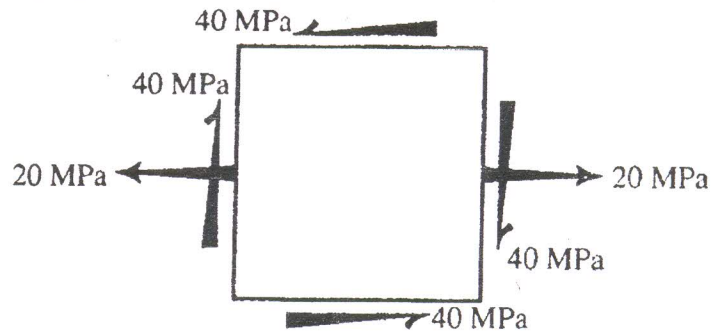

Fig.3
- (b) At a point in a strained material, the state of stress is as shown in Fig.3. Determine the principle stresses, principle planes and maximum shear stress. [5]